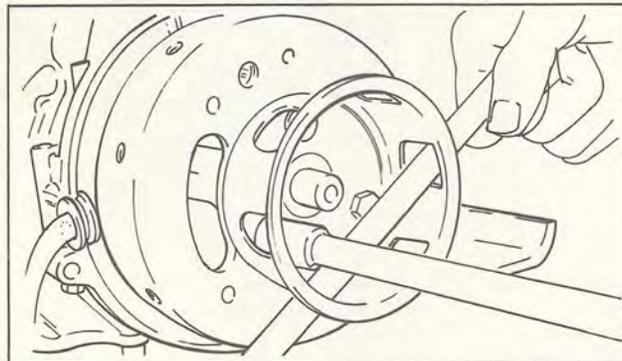

Fig. 2-19
- (3) Remove the bolts that hold the starter pulley. Once these bolts are removed, the pulley can be set aside. (Fig. 2-19)